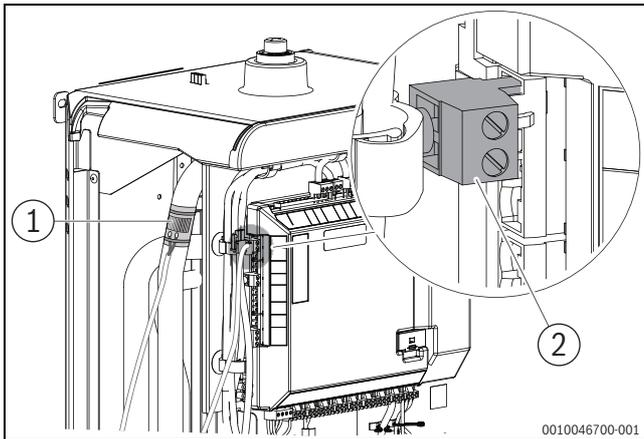

Fig. 25 Dew point monitor position
- ▶ Install the dew point monitor on the flow pipe for the heating system (→Figure 25).